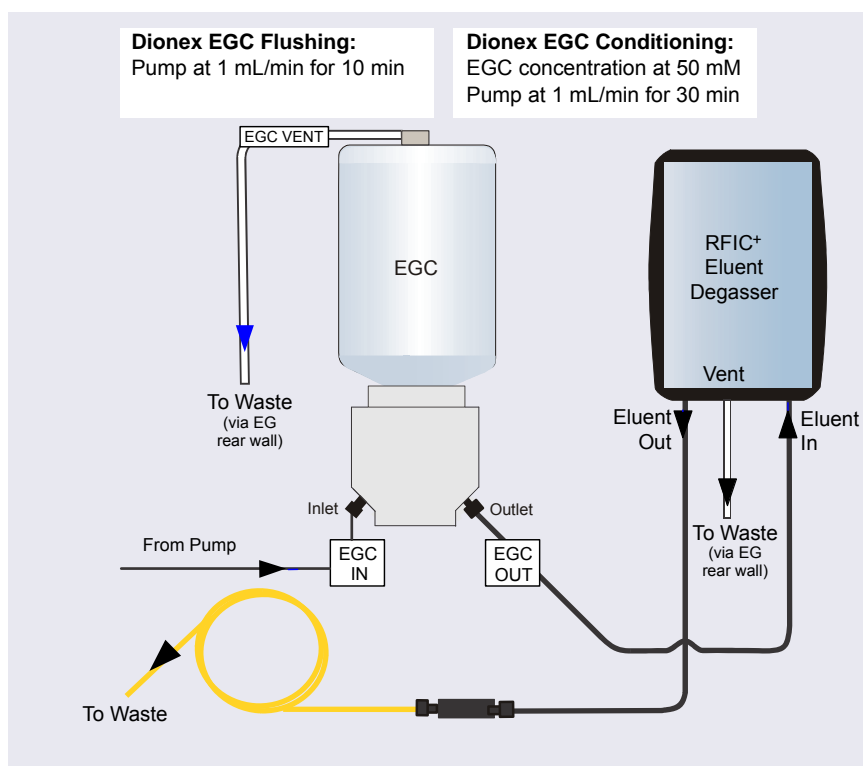

Figure 4-28. Flow Schematic for Conditioning the Dionex EGC:
7. Connect the line from the **ELUENT IN** port of the Dionex RFIC⁺ Eluent Degasser to the Dionex EGC **OUTLET** port (see Figure 4-28). This is a temporary connection.
2. Connect the coil to the **ELUENT OUT** port of the RFIC⁺ Eluent Degasser (see Figure 4-28). Direct the open end to a waste container. (This is a temporary connection.)